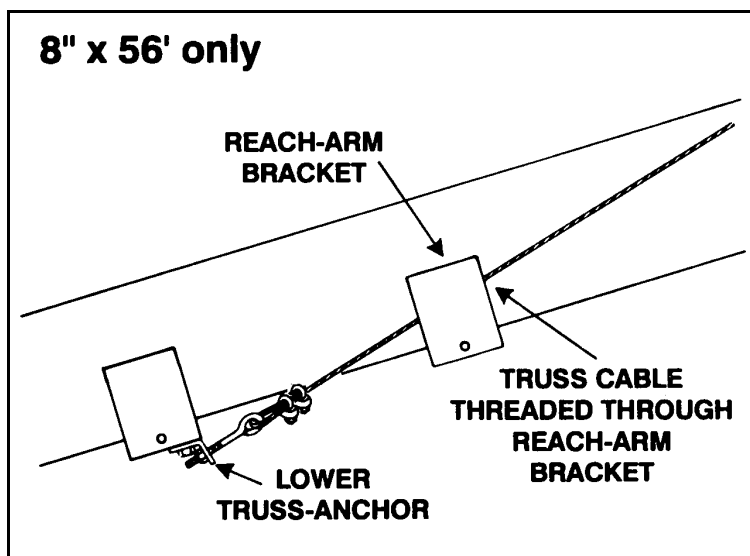

Figure 3.11
See Figure 3.11, 3.12, 3.13, and 3.14.
- use two 7/16" x 1" bolts and locknuts (see Figure 3.11, 3.12, and 3.13 for location).
Important: *On the 8" x 56' augers, the truss cable must be threaded through the reach-arm bracket as shown in Figure 3.11 and then attached to the eyebolts at the lower truss anchor.*